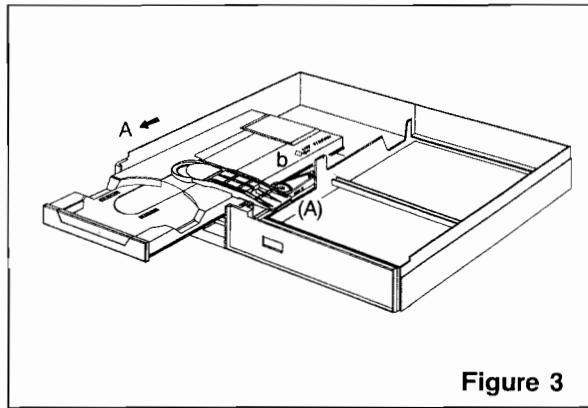

Figure 3
3. To Remove the TRAY Mechanism Ass'y (Figure 3)